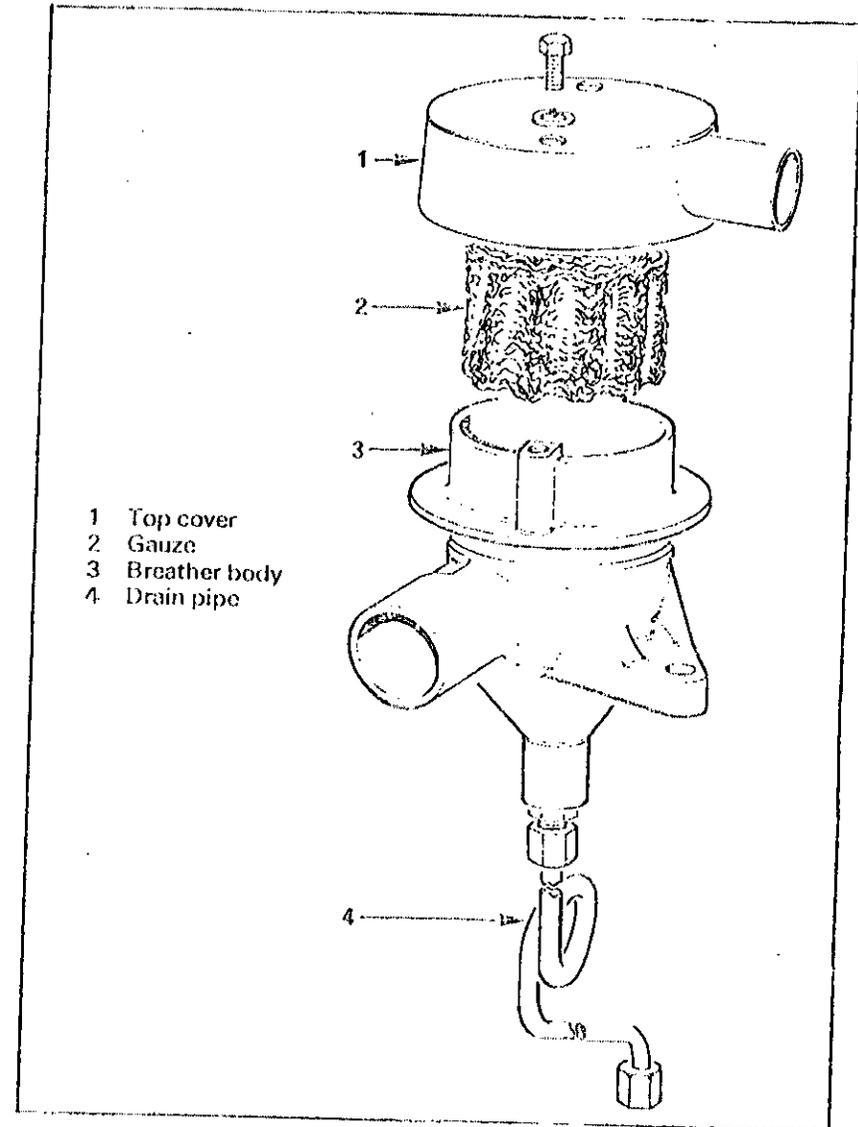

Fig. 28 Single gauze engine breather
- 2 Remove the top cover and the breather gauze (see fig. 28).